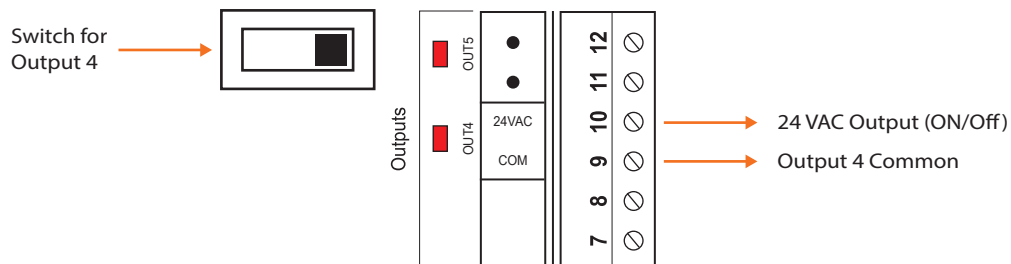

Figure 8 - Output in SOURCE mode
| Figure 8 - Output in SOURCE mode .....                              | 9  |
- 1) Switch position to obtain a SOURCE **active output** (see Figure 8):